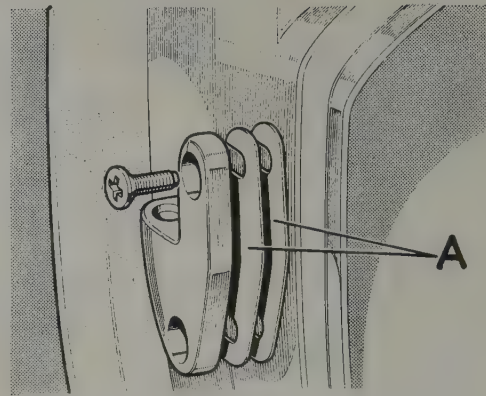

Fig. 12.3. Hinge to door shims (A)
- Shims may be added or subtracted between the door and hinge so as to move the door either forwards or rearwards in the door aperture (Fig. 12.3).